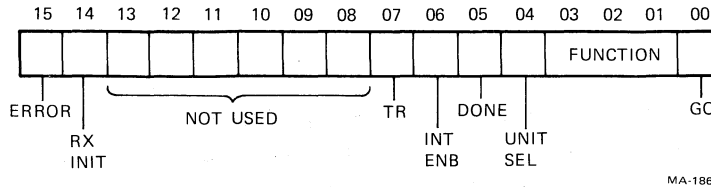

Figure 4-17 RXCS Format (RX11, RXV11)
4.2.2.1 RXCS - Command and Status (177170) - Loading this register while the RX02 is not busy and with bit 0=1 will initiate a function as described below and indicated in Figure 4-17. Bits 0-4 are write-only bits.